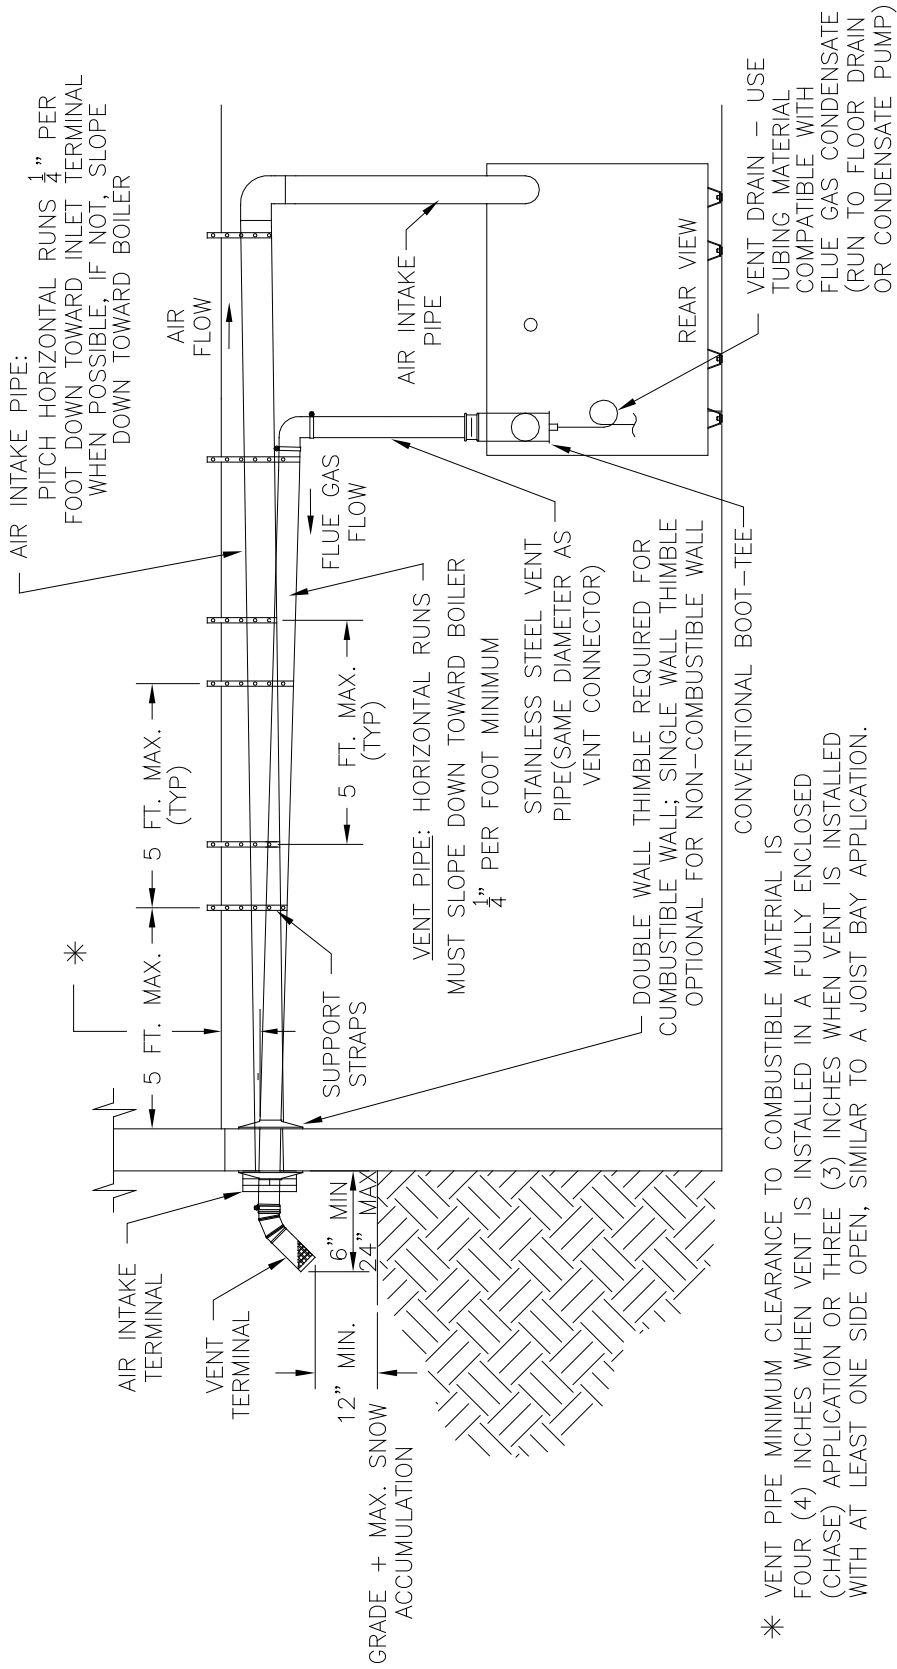

Figure 4: Recommended Separate Horizontal - Vent/Air Intake Installation
7. Maintain a minimum vertical pitch of one (1) inch in four (4) feet of vent connector run.
G. Air Intake Piping – See Figure 4 & 8
4. Horizontal air intake termination must be located at least twelve (12) inches above grade plus the expected snow accumulation.
7. The air intake pipe must be adequately supported with straps or supports no less than five (5) feet apart on horizontal runs. The complete air intake piping system must be rigid and able to withstand minor impacts without collapse.